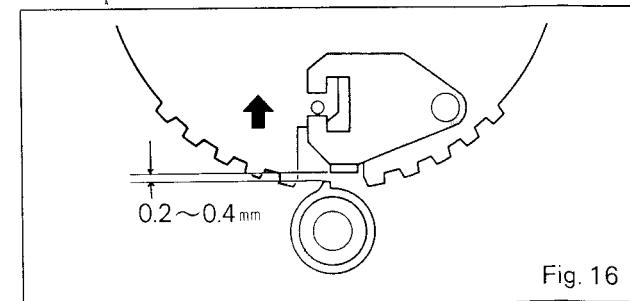

Fig. 16
- (1) Loosen the three screws which hold the turntable shaft.
- (2) Push ratchets A and BJ attached to the drive gear as far as possible in the direction of the arrow shown in Fig. 16.
- (3) Move the turntable shaft so that the gap between the turntable gear and ratchet A becomes as shown in Fig. 16, and tighten the screws.
- (4) Turn the turntable shaft by hand to make sure the turntable gear and ratchet A do not touch each other. If they come in contact, move the turntable shaft slightly forward.
Keep the gap between the turntable and ratchet to the dimensions shown in Fig. 16.
Remove the turntable platter and check to see that the clearance between gear of center shaft and ratchet is reasonable. (Fig. 16)